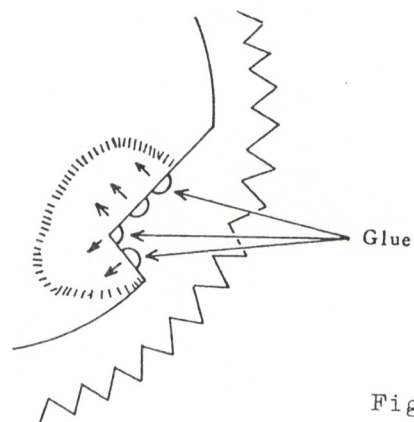

Fig 29
- (8) After (7) operation, apply glue like crazy glue or super glue as shown in (Fig 29).